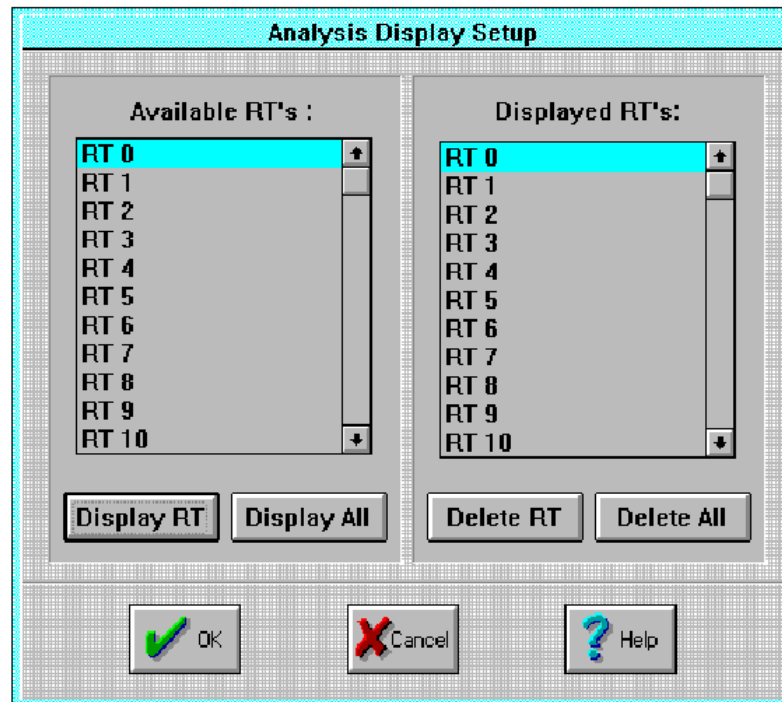

Figure 3.8.4: Analysis Display Setup Window
- Display Configuration** Choose the **Display Configuration** option on the menu bar to pop up the Analysis Display Setup window (shown in Figure 3.8.4).